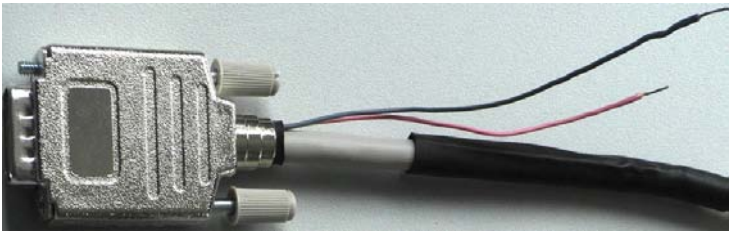

Fig. 73 Shrinking hose with stranded wires
- ➡ Disconnect the grey and the pink stranded wire from the shrinking hose, see Fig. 73.